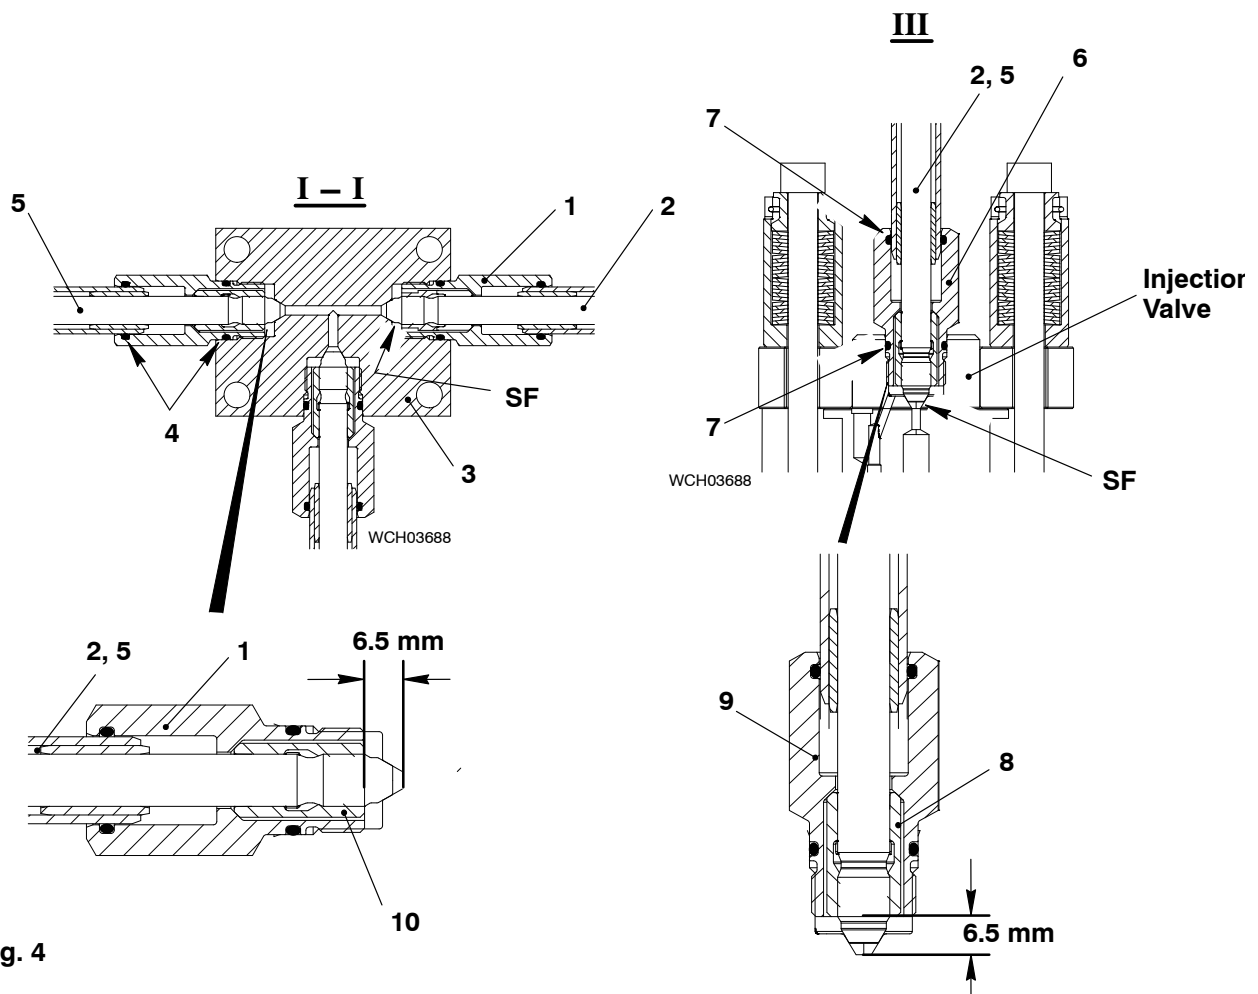

Fig. 4
- 3) Put new O-rings (4, 7, Fig. 4) in position on the applicable pilot fuel pipe (2, 5).
- 4) Put the applicable pilot fuel pipe (2, 5) in position in the injection valve and the distributor block (3).
- 6) Apply Never-Seez NSBT8 to the threads of the coupling nuts (1).